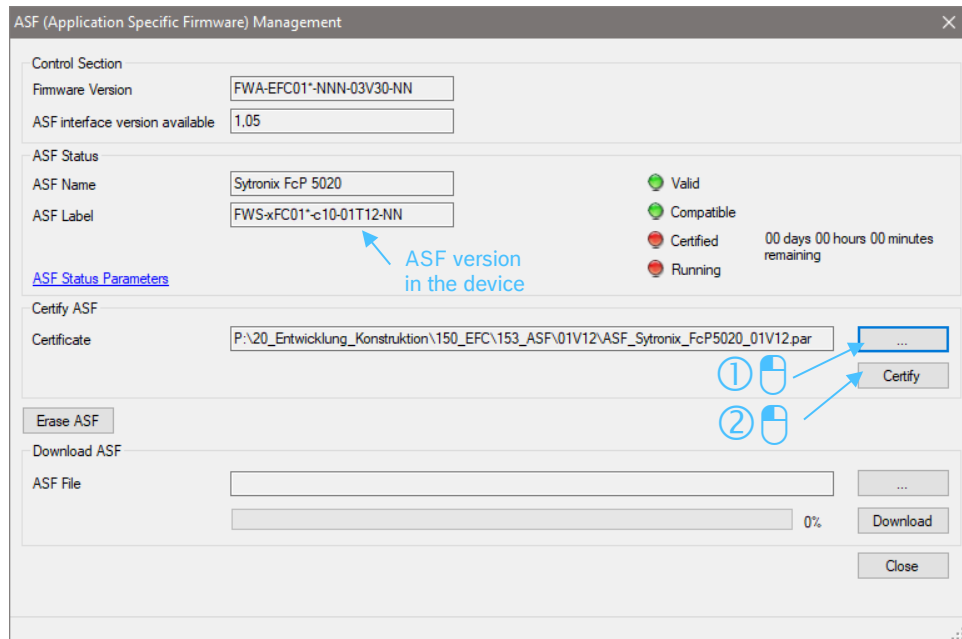

Abb. 16: Licensing ASF window
- Click on "..." to navigate to an ASF license file (*.par) and then click on "Certify" to certify the version (see Abb. 16: Licensing ASF window).